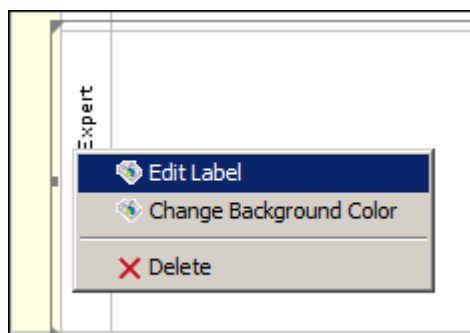

Figure 34: Select Edit Label for Swim Lane
1. Right-click the Swim Lane that you want to rename and select **Edit Label** option (see Figure 34).